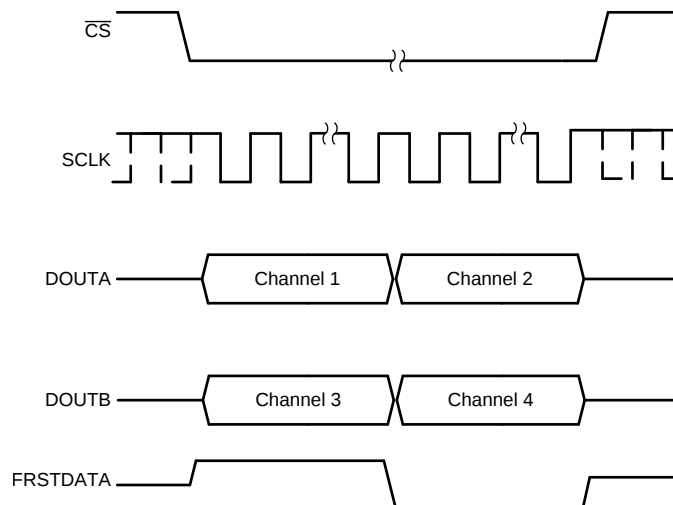

Figure 70. Data Read Back in the Serial Interface Using Both DOUTA and DOUTB Timing Diagram
- In order to minimize the time for the data read operation in serial mode, both DOUTA and DOUTB can be used to read data out of the device. In this case, the conversion results from the first set of channels (channels 1-2 for the ADS8584S) appear on DOUTA and the conversion results from the second set of channels (channels 3-4 for the ADS8584S) appear first on DOUTB. To read the data for all channels, provide a total of $16 \times 2 = 32$ SCLK cycles for the ADS8584S. This entire data frame can be created within a single $\overline{CS}$ pulse or each group of 16 SCLK cycles can be individually framed by the $\overline{CS}$ signal. Figure 70 shows an example timing diagram.